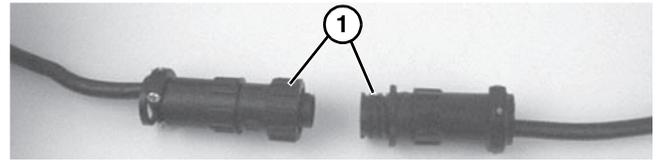

Figure 15
3. For DC variable speed motor, unplug motor cord at disconnect (Figure 15, item 1).